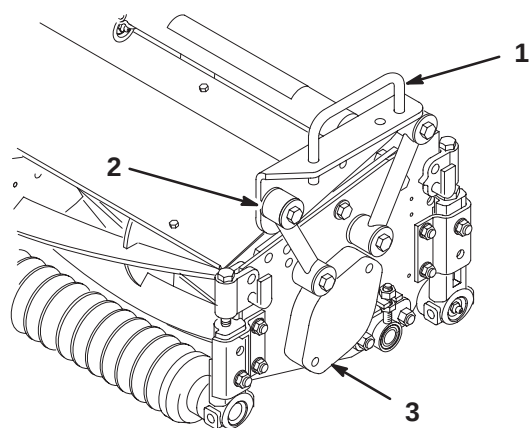
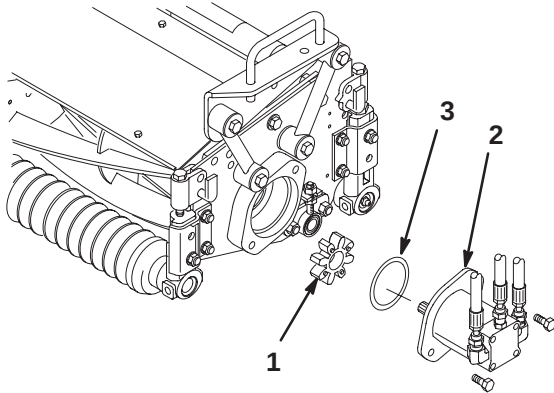

Figure 5
Figure 9
2. Position a carrier frame onto each cutting unit, aligning the mounting holes with the mounting links (Fig. 5).
3. Secure each mounting link to the carrier frame with a capscrew (3/8 x 2-1/4 in.), 2 flat washers, and a locknut, as shown in Figure 5. Position a washer on each side of the link when mounting. Torque to 31 ft.-lb. (42 N·m).
2. Remove the bearing housing cover (Fig. 5) from the inside end of the right-hand cutting unit. Install the cover and gasket (supplied with the cutting unit) on the outside end. Locate the spider coupling (Fig. 9) shipped in the bearing housing.
3. Insert the O-ring (supplied with the cutting unit) on the flange of the drive motor (Fig. 9).
4. Mount the motor and the spider coupling to the drive end of the cutting unit and secure them with 2 capscrews provided with the cutting unit (Fig. 9).